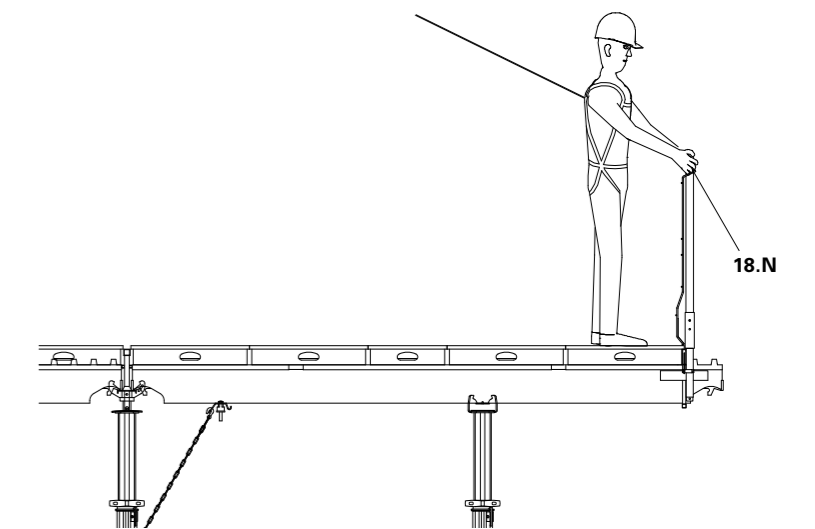

Fig. A9.22
5. Insert guardrails or mesh edge protection (e.g. PROKIT Mesh Barriers) (Fig. A9.22)